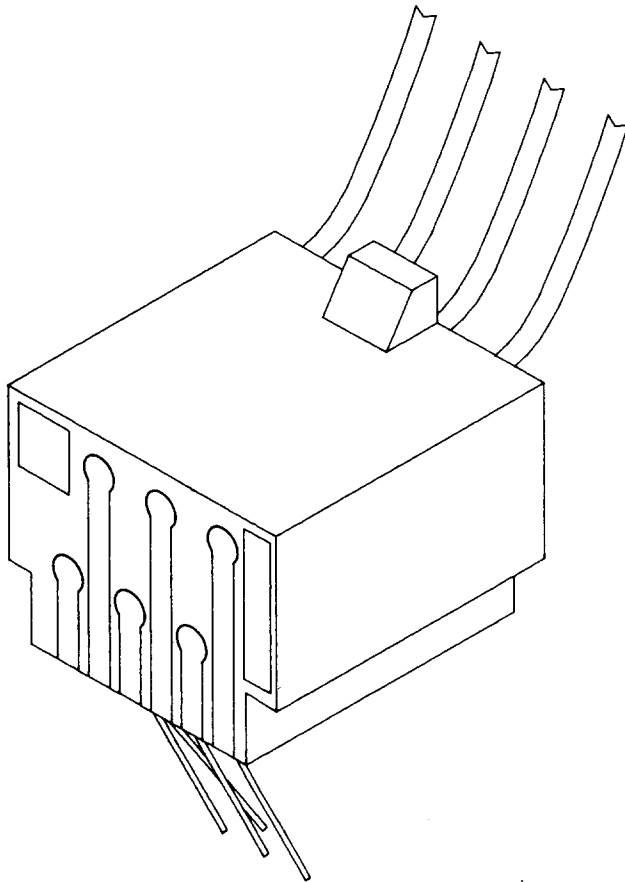

Fig. 13—645-Type Jack
2.13 645-Type: The 645-type jacks (Fig. 13) have a 4-conductor spring block assembly for use with the modular telephone jacks and/or connector blocks. The 645-type jacks have tops with contact springs and leads which snap into separately supplied jacks or blocks. The mating bodies may be a part of telephone sets or connecting blocks and could be molded integrally with a base chassis housing, etc. The tops are designed to snap into place for easy assembly. The unique features of the various types are described as follows: